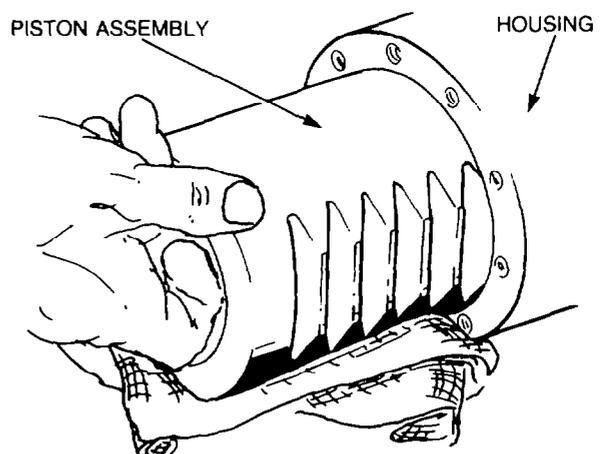

Figure 269 — Piston Assembly — Removal
- j. Carefully withdraw the piston assembly from the housing (see Fig. 269).